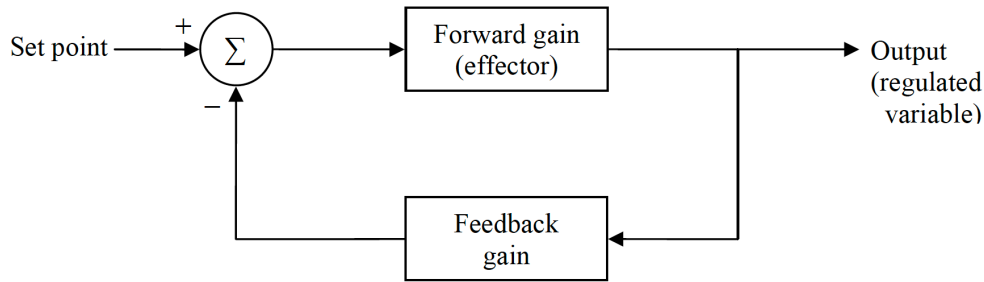

Figure 2: Function of muscle spindle during a monosynaptic stretch reflex.
This entire system can be generalized as a control system in which a regulated variable (e.g. the spike frequency of the stretch receptor) is continuously adjusted by negative feedback. Fig. 2 shows a generalized diagram of a negative feedback control system. The
8. How do the muscle response magnitudes during the Jendrassik maneuver compare to the regular procedure? Recall the negative feedback diagram (Fig. 2). Which variable do you think has changed?